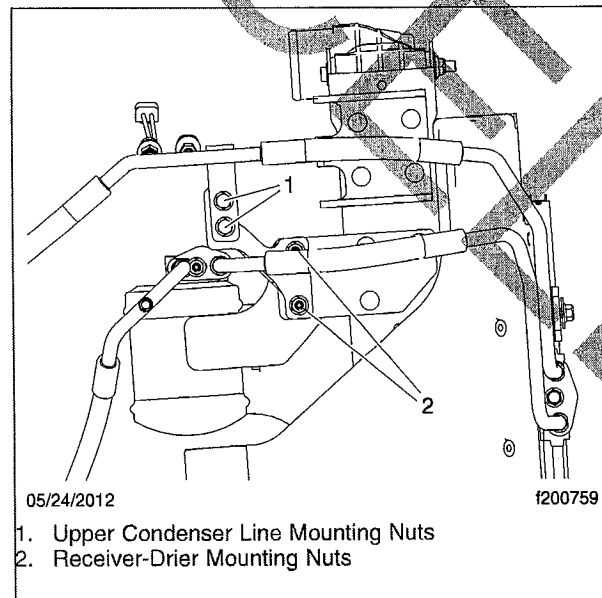

Fig. 2, Receiver-Drier Installation (typical)
- 12.1 Remove the receiver-drier and upper A/C line mounting nuts, then free the receiver-drier. See **Fig. 2**.
- 35.2 Position the receiver-drier and upper A/C line on their respective brackets and install the mounting nuts. See Fig. 2. Tighten the nuts 14 to 16 lbf·ft (19 to 22 N·m).